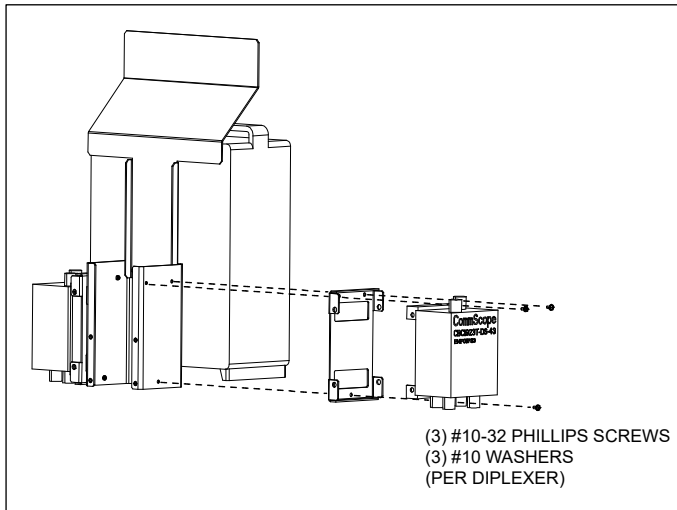

Figure 15
4. Attach one diplexer and diplexer bracket to each side of the lower radio bracket using three 10-32 Philips screws with #10 washers. Repeat with the other diplexer on the opposite side of the radio bracket (Figure 15).